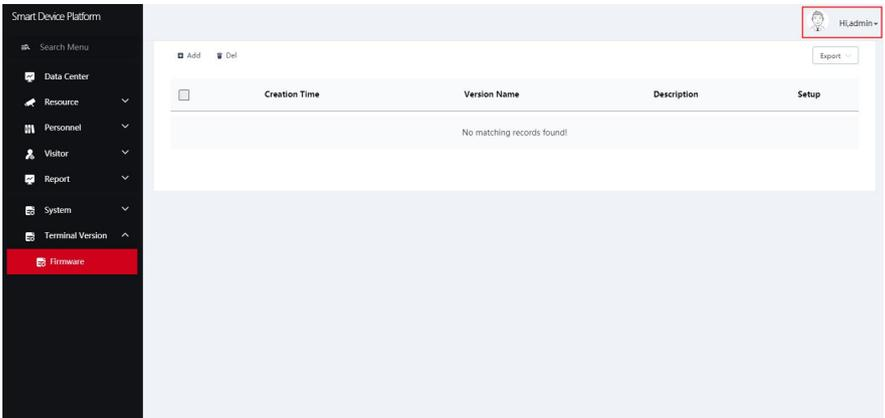

Figure 5-108
Step 1: In the smart device platform interface, click " ", as shown in Figure 5-108 below.